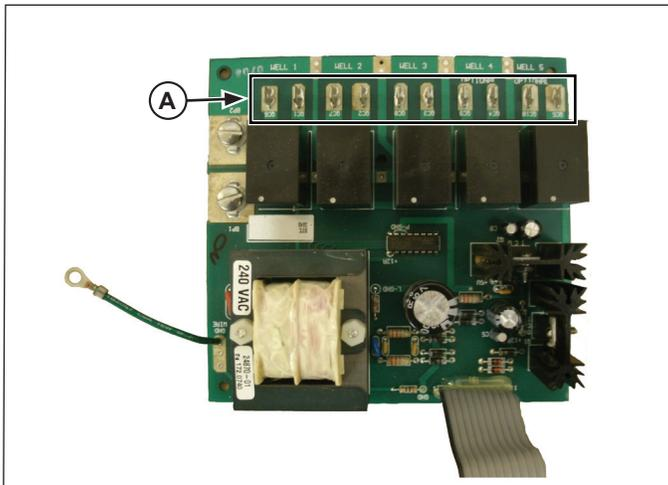

Figure 1. Old Relay Board
3. Mark all the wires that are connected to the Relay Board terminals (A) These are located at the top of the circuit board. See Figure 1.